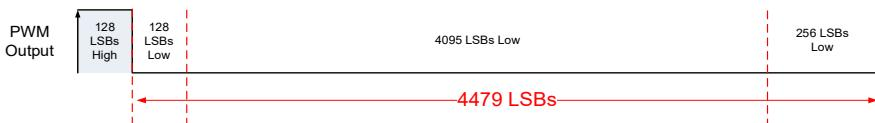

Figure 34. 12-bit PWM Signal in Diagnostics Low Mode
- Diagnostic low mode, see Figure 34 and Figure 36